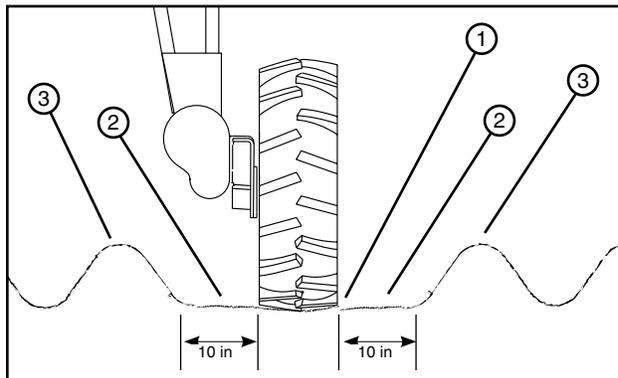

Figure 36-2 1. Wheel Track
3. Remove or flatten the rows at the wheel tracks with a minimum of 10 in (254 mm) of clearance space on each side of the wheel track. See Figure 36-2.